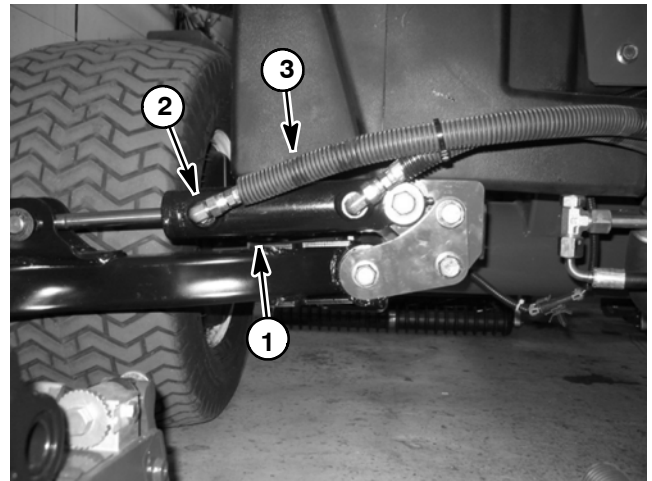

Figure 49
3. Thoroughly clean the area around the end of the hydraulic hose at the rod end of the lift cylinder. Disconnect the hydraulic hose from the lift cylinder rod end fitting (Fig. 49).